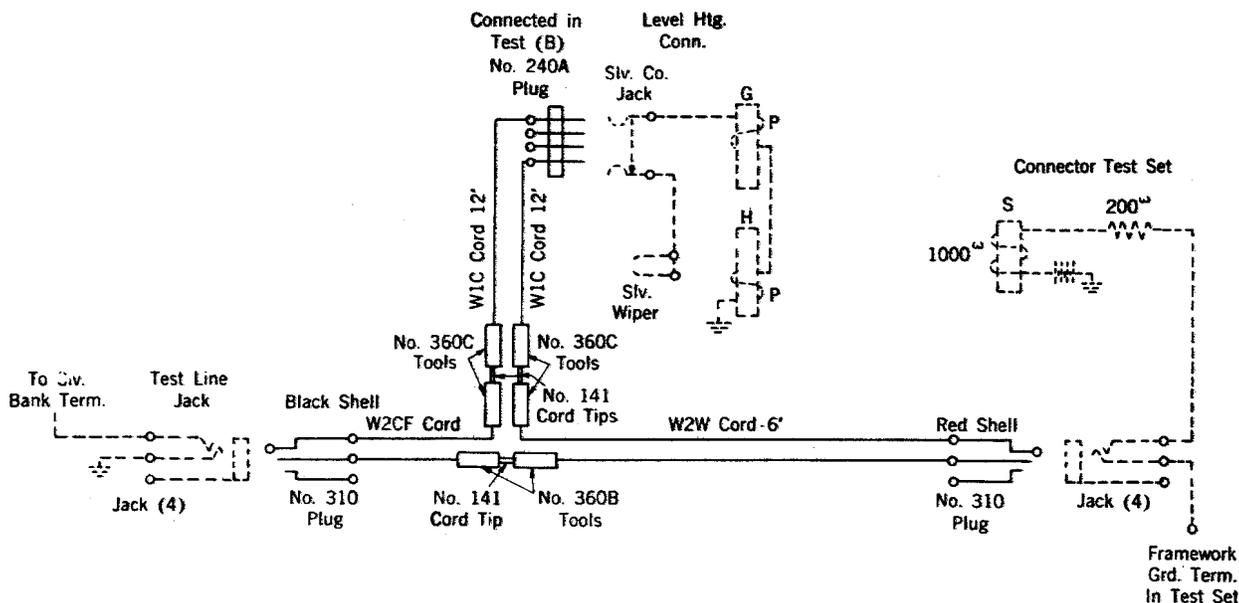

Fig. 1
- 2.06 W2W Cord equipped with one No. 310 Plug, one No. 360B Tool and one No. 360C Tool (2W17A); one W2CF Cord equipped with one No. 310 Plug (replace RED shell with BLACK shell), one No. 360B Tool and one No. 360C Tool (2W17D); two W1C Cords, each 12 feet long; two No. 360C Tools; one No. 240A Plug; and three No. 141 Cord Tips. Assemble to form Special Cord as shown in Fig. 1.
2	Insert black shelled No. 310 plug of special test cord (Fig. 1) into jack 4 of test line (level hunting) on connector frame, and insert red shelled No. 310 plug into jack 4 of test set.
11	Insert No. 240A plug (stay cord to the right) of special test cord (Fig. 1) into sleeve cutoff jack of connector. Note: If sleeve cutoff jack wiring is reversed, reverse No. 240A plug.